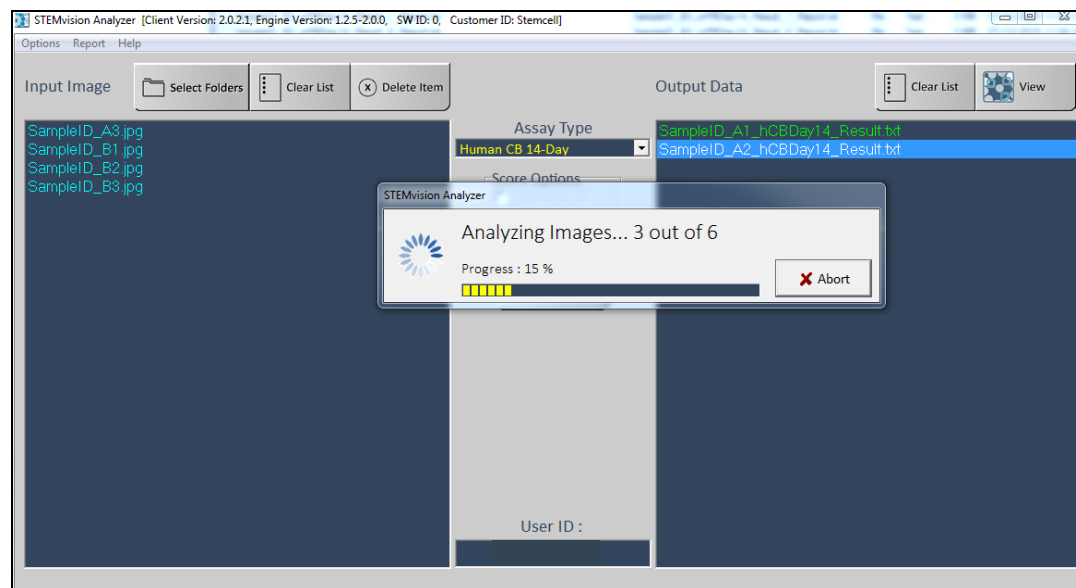

Figure 11. Human STEMvision™ Analyzer Indicating Progress
2. Click the “Process” button to start data analysis. A progress window will show the images being analyzed and their progress (Figure 11).
3. As the images are analyzed, the filenames will move from the “Input Image” to the “Output Data” field (Figure 11). The analysis result files will be saved in the same sub-folder as the images (i.e. Plate ID folder).